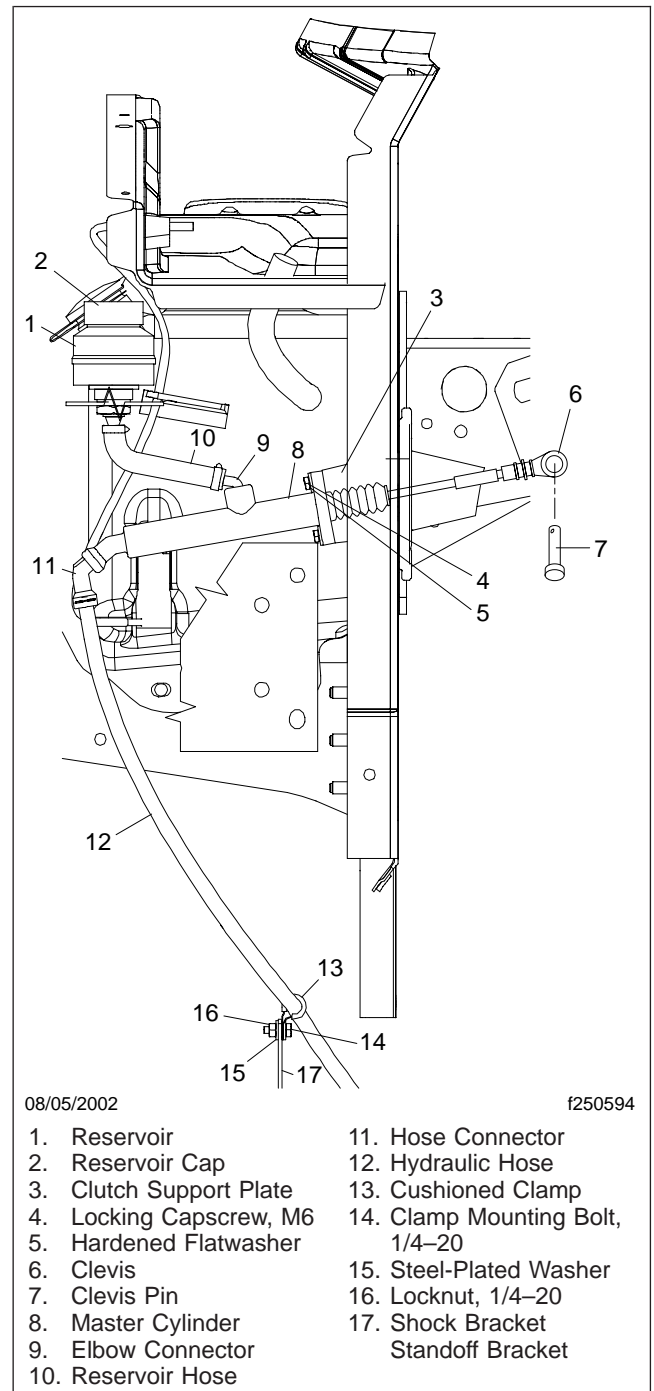

Fig. 4, Clutch Master Cylinder
6. Fill the reservoir with approved DOT 3 brake fluid and bleed the system according to the procedures under the heading "Bleeding the Clutch." See Fig. 4.